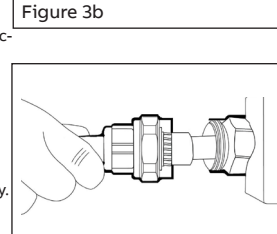

Figure 5b
- Mount hub in desired location. Place encapsulated assembly into hub and secure in position by tightening union until it bottoms (metal to metal contact) (Figures 5b and 6b). Repack compound tightly around conductors if required. Allow compound to set for approximately one hour before disturbing conductors.